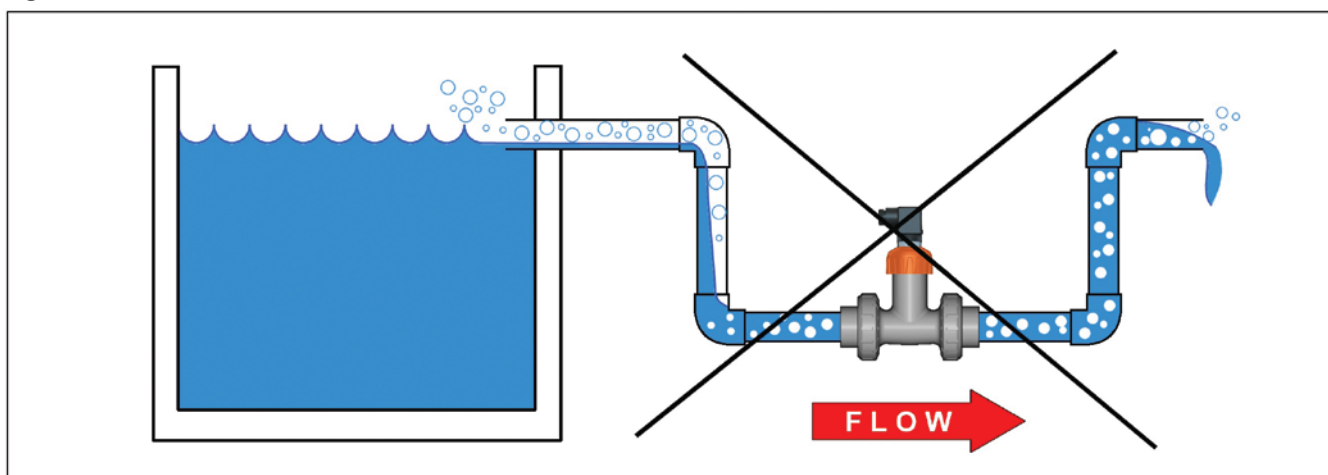

Fig. 4
- In gravity systems, the connection to the tank must be designed so that the level does not fall below the intake, to prevent the pipe from suctioning air from the tank, affecting the quality of the sensor measurements (**Fig. 4**).